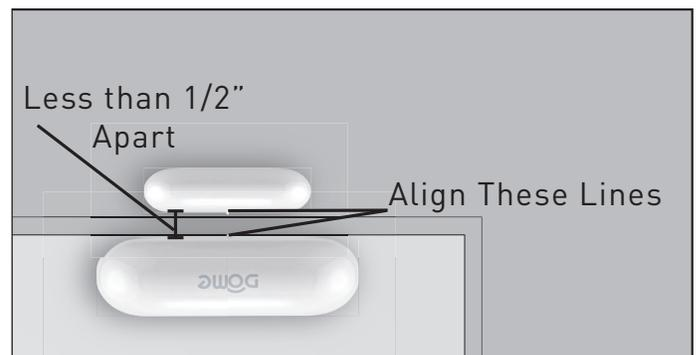

Figure 4 - Sensor Alignment
- ✓ The MAGNET and SENSOR should be less than 1/2" apart when closed (Figure 4.)